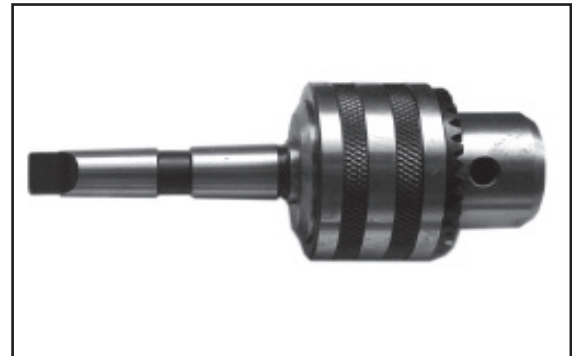

Figure 11
2. Insert the arbor (A-Fig.11) into the chuck (B-Fig.11) as shown.